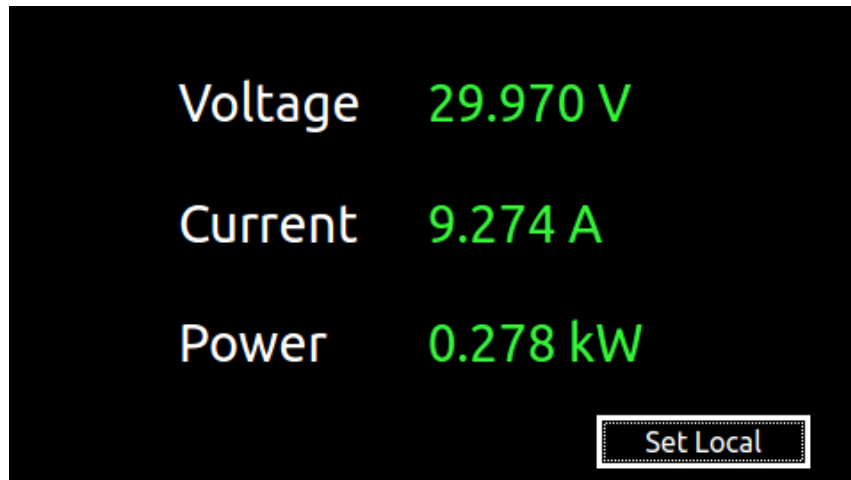

Figure 3-3. Local/Remote Screen
- Press Set Local button on the Local/Remote screen on the Front Panel (see Figure 3-3, for details refer to SGX Operation Manual, M551600-01).